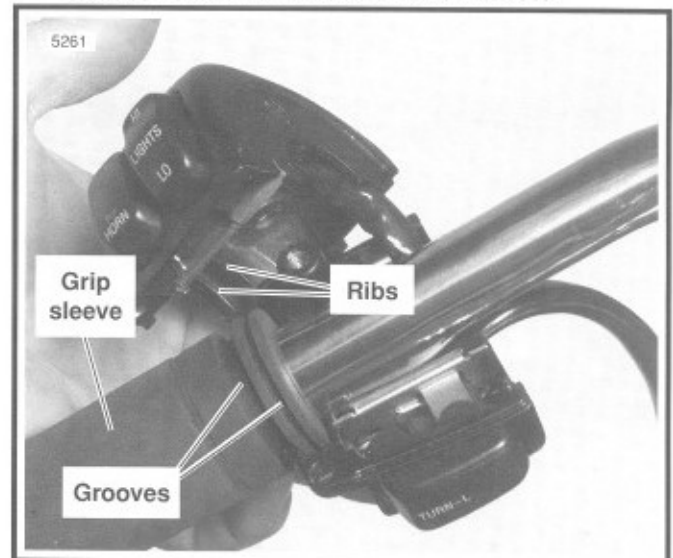

Figure 7-75. Install Left Handlebar Switch Housings
2. See Figure 7-75. Install upper and lower switch housings on handlebar. Be sure that ribs on outboard side of switch housings fit in grooves molded into grip.